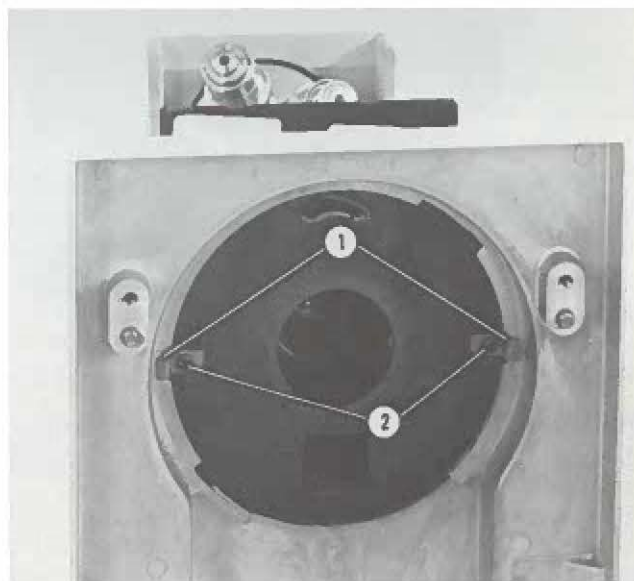

FIGURE 6-3 COVER PLATE/FILTER HOLDER INSTALLED IN MICROSCOPE BASE
6.1.2 If the research base illuminator was purchased as a separate item, fasten the cover plate/filter holder to the upper part of the base using the screws and clamps as shown in Figure 6-3.